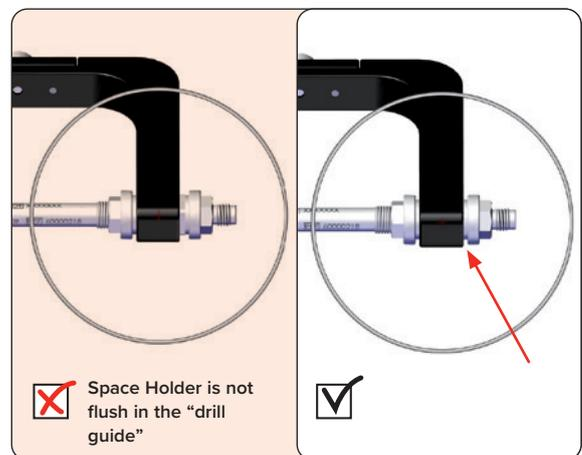

Fig. 52 Space holder wrongly inserted
2. The Space Holder is not completely flush with the Drill Guide Assembly. **(Fig. 52)**